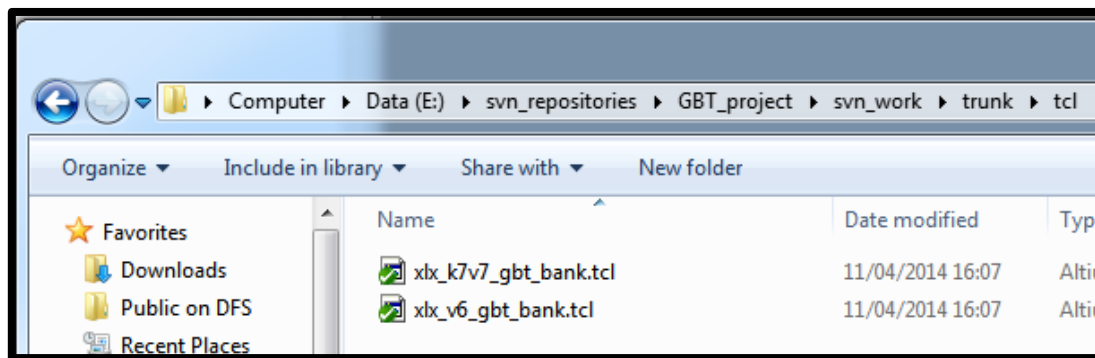

Figure 16: Content of the TCL scripts folder
1. Go to the folder where the TCL scripts are located (see Figure 16)